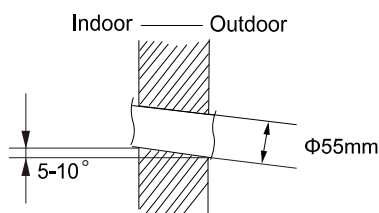

Fig.2
(2) Open a piping hole with the diameter of $\Phi 55\text{mm}$ on the selected outlet pipe position. In order to drain smoothly, slant the piping hole on the wall slightly downward to the outdoor side with the gradient of $5\sim 10^\circ$.(As show in Fig.2)